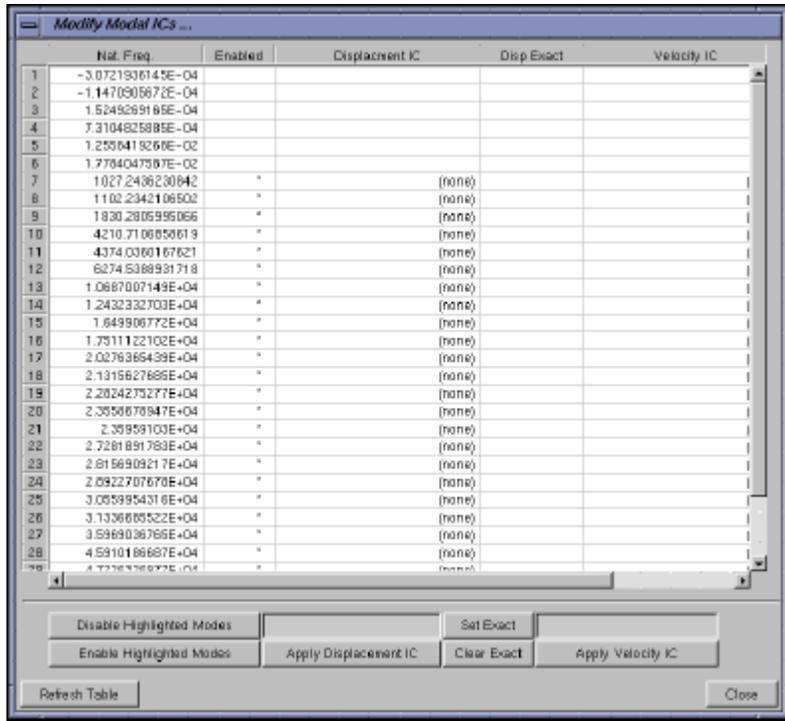

Figure 3 Modify Modal ICs Dialog Box
7. Create three fixed joints using the **1 Location** construction method and attach the flexible bodies to each other at Nodes 1000 and 1001 as shown in Figure 3 on page 6.